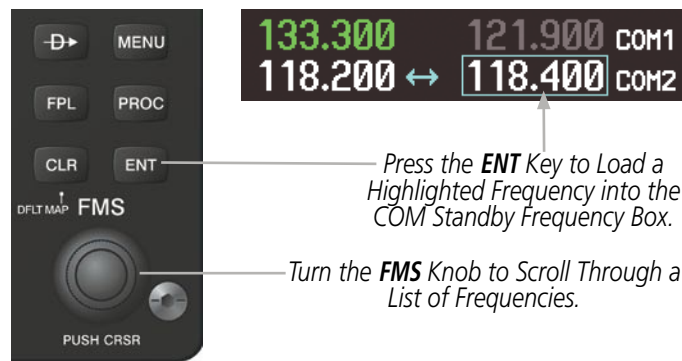
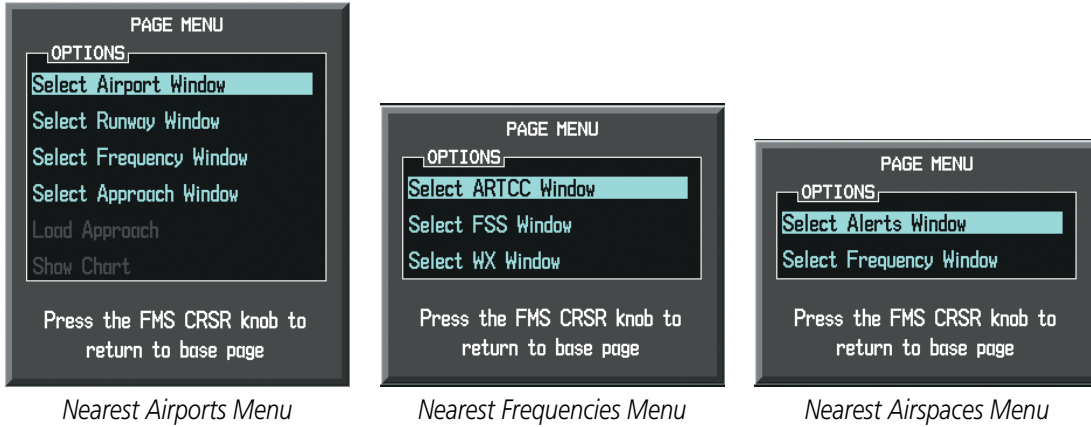

Figure 4-9 Frequency Auto-Tuning from the MFD
Figure 4-10 Nearest Pages Menus
Frequencies can be automatically loaded into the COM Frequency Box from pages in the NRST or WPT page group by highlighting the frequency and pressing the **ENT** Key (Figures 4-9, 4-10, and 4-11).
- 1) Press the **MENU** Key (Figure 4-9) to display the page menu (Figure 4-10).